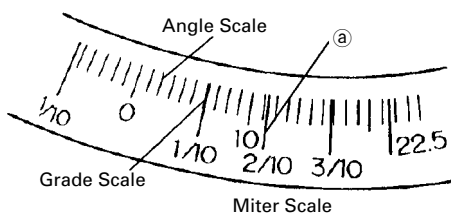
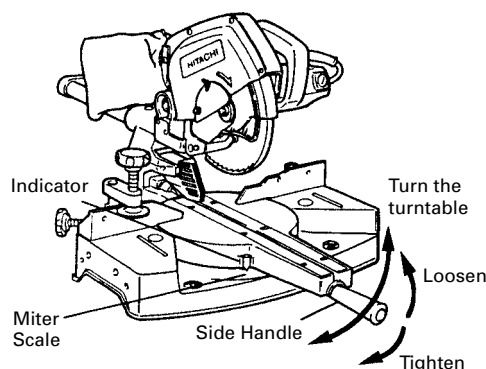

Fig. 24
Fig. 26
- (1) Loosen the side handle and adjust the turntable until the indicator aligns with the desired setting on the miter scale (Fig. 26).
- (2) Re-tighten the side handle to secure the turntable in the desired position.
- (3) The miter scale (Fig. 24) indicates both the cutting angle on the angle scale and the gradient on the grade scale.
- (5) Therefore, to cut a workpiece at a grade of 2/10, set the indicator to position ② as indicated in Fig. 24.